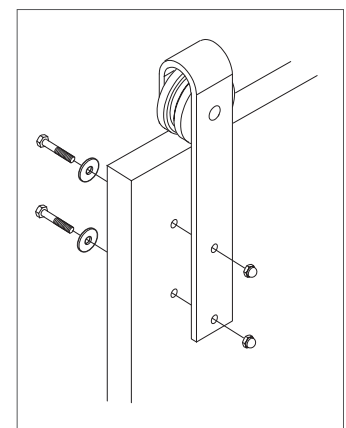

Figure 6
9. Install the hangers to the front of the door using the lag bolt, washers and acorn nuts provided (Figure 6).
9. Hang the door (Figure 6).